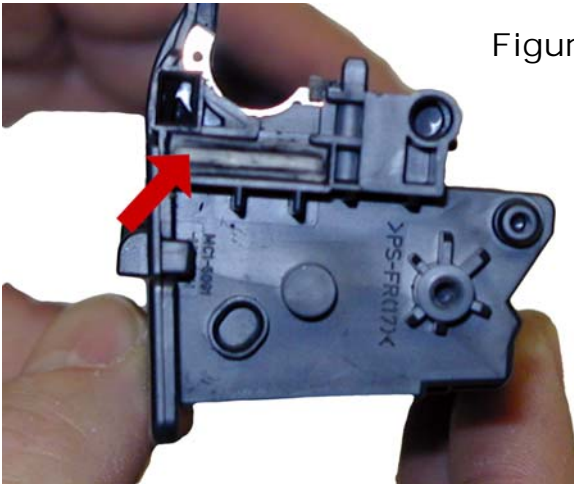

Figure 26
20) When a seal becomes available, remove the seal port plug, and install the seal. Bring the tail out through the seal port hole. Install the plug. See **Figures 26 & 27**